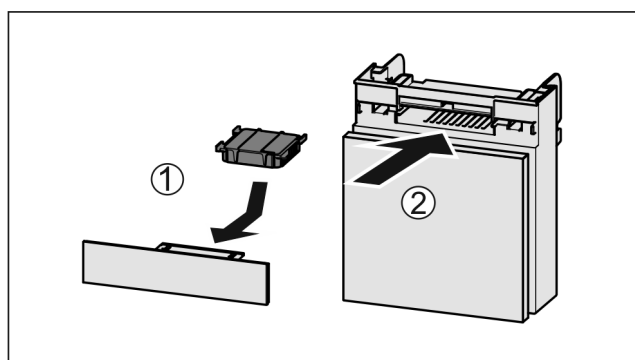

Fig. 124
- Insert the carbon filter as shown in the diagram Fig. 124 (1).
- Push the compartment in Fig. 124 (2).